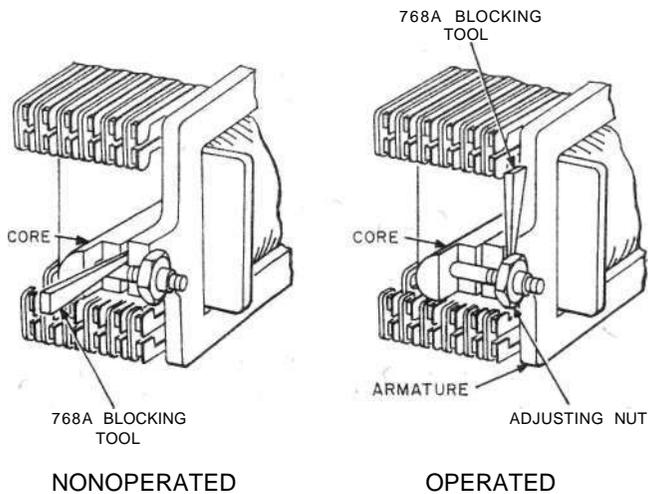

Fig. 7—Blocking U-, Y-, UA-, UB-, 271-, and 282-Type Relays
**3.05 U-, Y-, UA-, UB-, 271-, and 282-Type Relays Not Equipped With Attachable Separators:** Fig. 7—Block relays nonoperated
by inserting the 768A blocking tool between the core and the armature. Insert the tool, being careful not to push off the armature stop discs. Block relays operated by applying the blocking tool between the armature and adjusting nut as shown in Fig. 7.